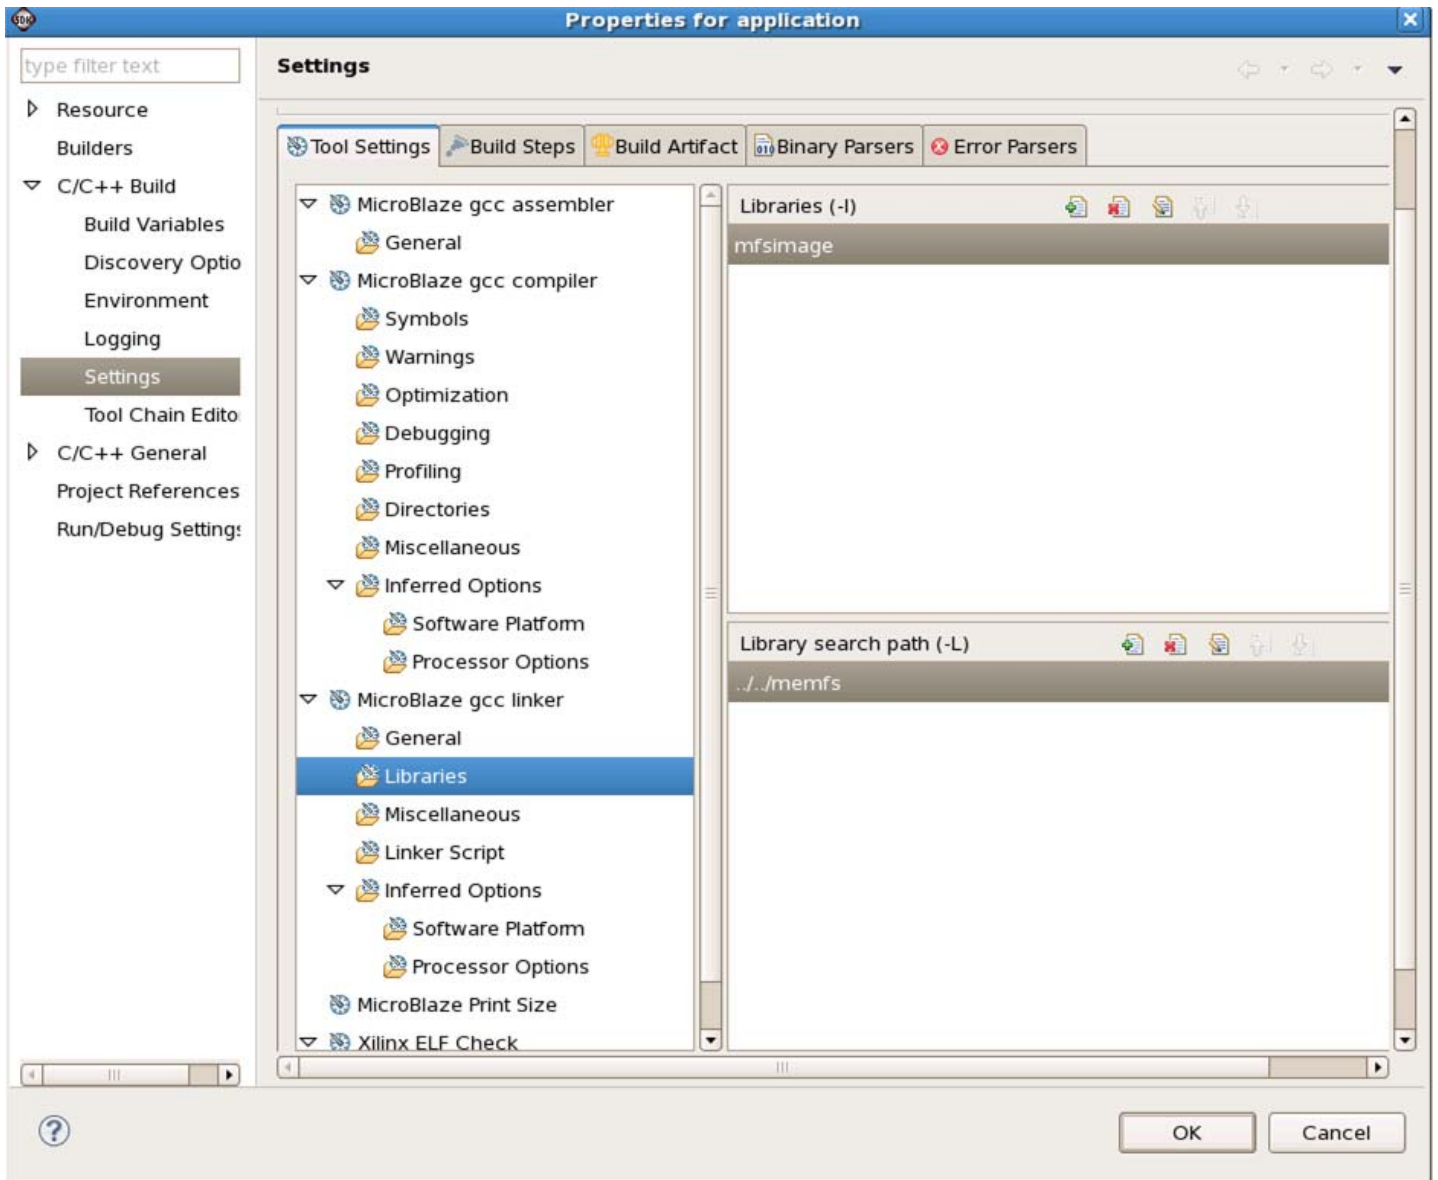

Figure 6: Properties for Application
1. The settings are completed in application properties to point to pre-compiled web server image files (right-click **Application** in SDK project and select **Properties**) See Figure 6.